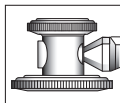

Fig. 2
5. Dual-head stethoscopes feature a 2-sided rotating chestpiece, Fig 2.